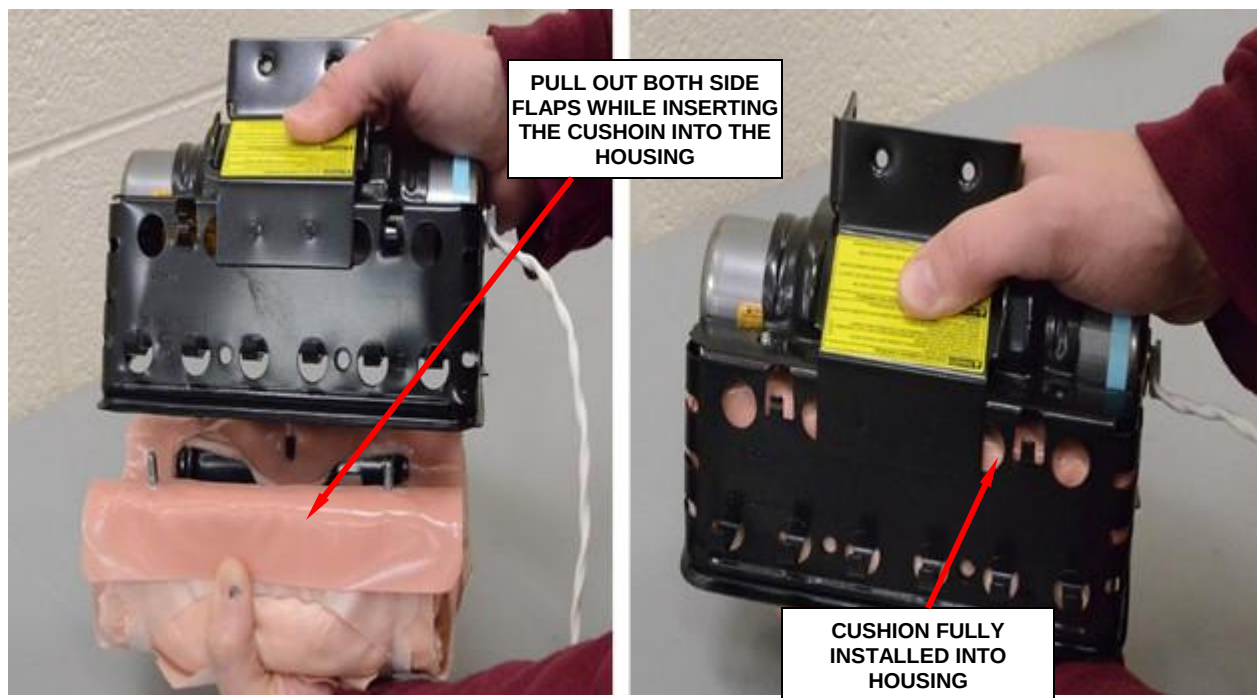

Figure 53 - Side Flaps Must Be Held Out
- l. Insert the cushion, pulling out both side flaps (Figure 53).